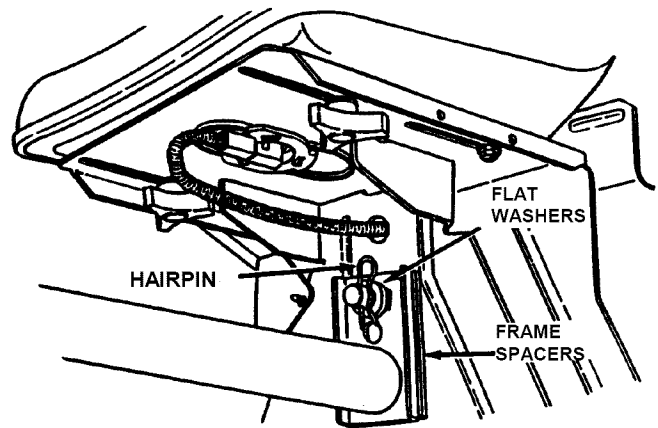

FIGURE 4.2
5. Remove hairpin and flat washers from pivot stud. See Figure 4.2.
8. Reinstall the required amount of flat washers removed in step "5." and install hairpin. See Figure 4.2. Retain any remaining spacers for readjustment when a new belt is installed.
The automatic Blade Brake should stop the blades within 3 seconds anytime the blades are disengaged by moving blade lever to the "OFF" position or by releasing the Blade Pedals. When the Blade Brake is properly adjusted there should be 1/8" to 1/4" clearance between the Blade Engagement Lever and the back of the Latch Plate. Check this by disengaging the Blade Lever and depressing the Blade Pedals as shown in Figure 4.2. If clearance is greater than 1/4" perform the following adjustment.